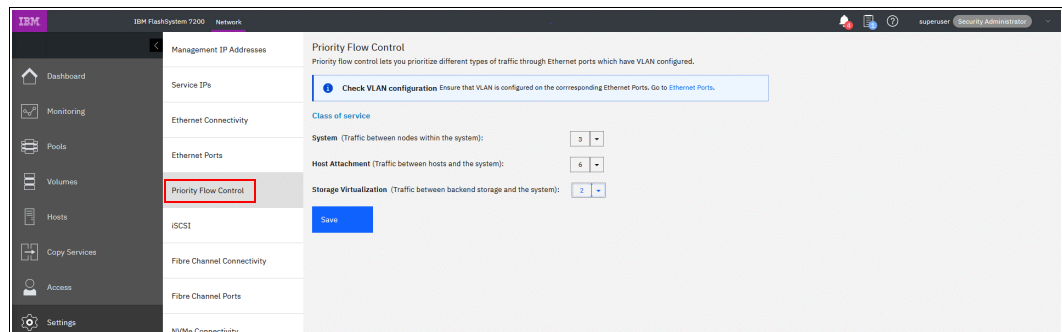

Figure 4-73 Priority flow control
1. In the management GUI, select **Settings** → **Network** → **Priority Flow Control**, as shown in Figure 4-73.